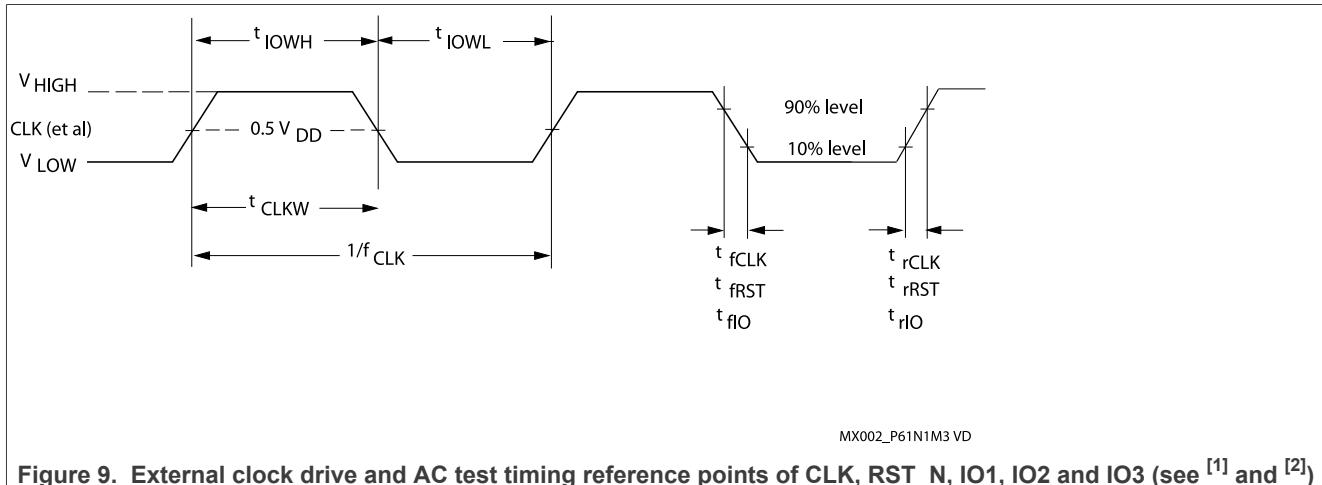

Figure 9. External clock drive and AC test timing reference points of CLK, RST_N, IO1, IO2 and IO3 (see [1] and [2])
- [5] During AC testing the inputs CLK, RST_N, IO1, IO2 and IO3 are driven at 0 V to +0.3 V for a LOW input level and at $V_{DD} - 0.3$ V to V_{DD} for a HIGH input level. Clock period and signal pulse (duty cycle) timing is measured at 50% of V_{DD} (see Figure 9).